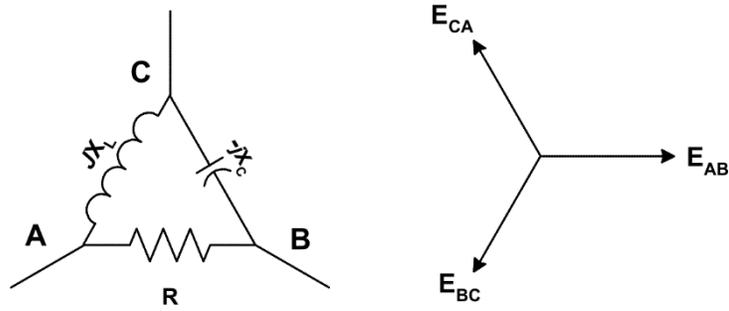

FIGURE 3.2
It sometimes happens that a large single-phase unity power factor load has to be connected to a 3-phase line. This can create a badly unbalanced system. However, it is possible to balance the three phases perfectly by connecting a capacitive reactance and an inductive reactance across the other two lines. The reactance must each have impedances times greater than the value of the load resistance Figure 3.2.
* Use the internal wattmeter connection shown in Figure 3.2 and consider $V_1 = 120/0^\circ$ V, $V_2 = 120/-120^\circ$ V and $V_3 = 120/120^\circ$ V
- When balancing reactance's are added across the remaining lines, as shown in Figure 3.2.